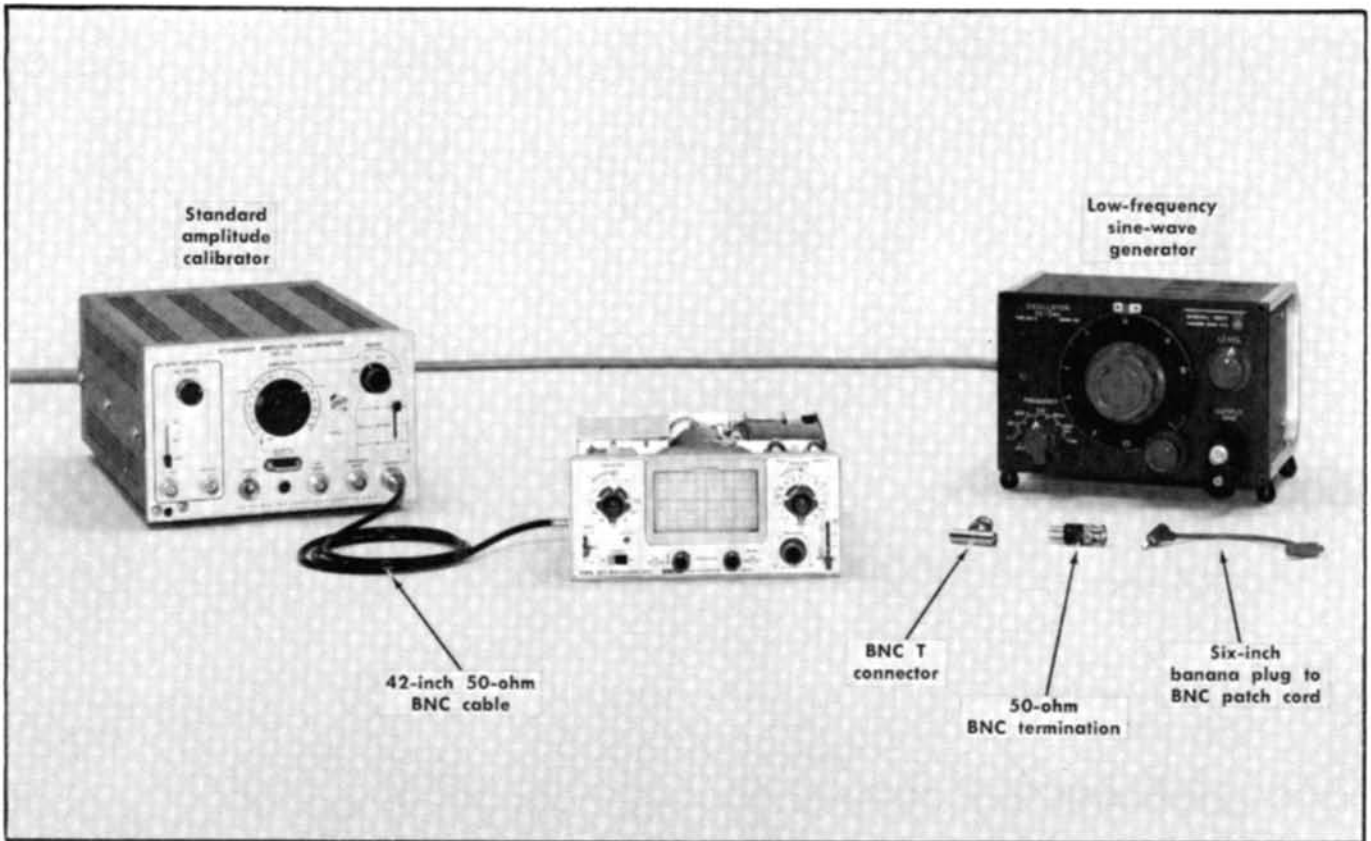

Fig. 6-18. Initial test equipment setup for steps 39 through 45.
39. Adjust External Horizontal Variable Balance ①
- a. Test equipment setup is shown in Fig. 6-18.